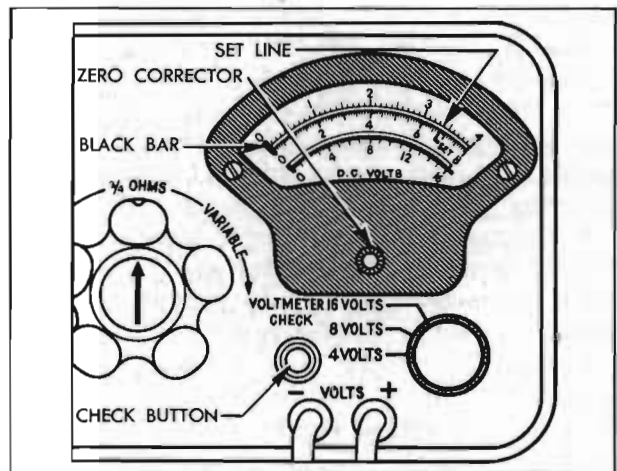

Figure 10-19—Voltmeter Calibration—Sun Model CB
- (a) While looking squarely at voltmeter dial, press the "VOLTMETER CHECK" button and note whether the voltmeter needle aligns with the "SET" line. See figure 10-19. With check button depressed, the voltmeter is disconnected from any external circuit and is connected across an extremely accurate internal test cell which checks its calibration within the range required for testing the voltage regulator.
- (b) If voltmeter needle does not exactly align with the "SET" line, hold "VOLTMETER CHECK" button depressed and adjust the Zero Corrector to bring voltmeter needle into exact alignment with "SET" line. See figure 10-19.